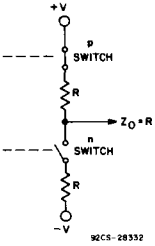

Fig. 3 — Constant output impedance of a buffered gate.
Buffered—Fig. 3 depicts the buffered output stage and shows the MOS transistor as switched on with a channel resistance R; R is the same value for the n-switch closed or the p-switch closed.
as buffered (B) types or unbuffered (UB) types by virtue of the squared or rounded transfer characteristics of Figs. 3 and 4, respectively. Even though both types have a single NMOS and single PMOS output transistor, the rounded transfer characteristic of the unbuffered inverters makes them UB types by virtue of:
Output Impedance—Refer to Figs. 3 and 4 and accompanying descriptions of the constant output impedance of buffered gates and the variable output impedance of unbuffered gates. Note that both buffered and unbuffered RCA 2-, 3- and 4-input gates are designed to meet the same maximum output impedance; output current ratings (I_{OL} and I_{OH}) have the same minimum limit on RCA data sheets.